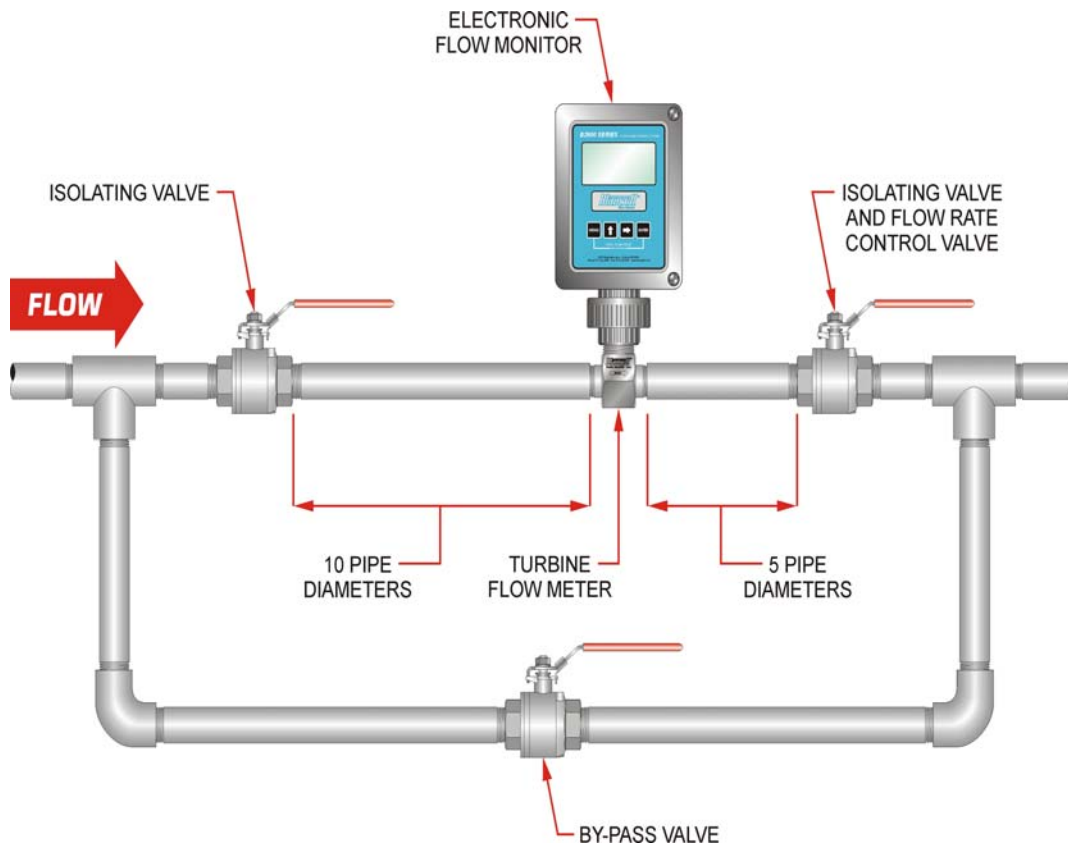

Fig. 4 Meter installation utilizing a bypass line
3. Adjust the downstream valve to provide the required flow rate through the meter. Note: The downstream valve may be used as a control valve. (see *figs. 4 & 5*)